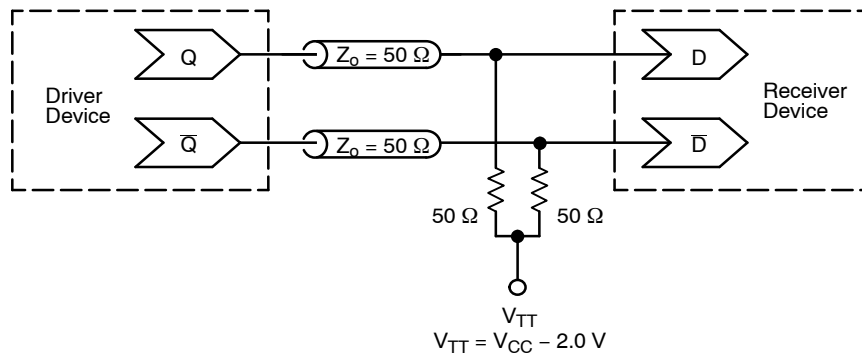

Figure 10. Typical Termination for Output Driver and Device Evaluation (See Application Note AND8020/D – Termination of ECL Logic Devices.)
- All loading with 50 Ω to $V_{CC} - 2.0\text{ V}$ (see Figure 10).
9. All loading with $50\ \Omega$ to $V_{CC} - 2.0\text{ V}$ (see Figure 10).
12. All loading with $50\ \Omega$ to $V_{CC} - 2.0\text{ V}$ (see Figure 10).
15. All loading with 50 Ω to $V_{CC} - 2.0\text{ V}$ (see Figure 10).
18. All loading with 50 Ω to $V_{CC} - 2.0\text{ V}$ (see Figure 10).
20. Measured using a 750 mV source, 50% duty cycle clock source. All loading with 50 Ω to $V_{CC} - 2.0\text{ V}$ (see Figure 10).